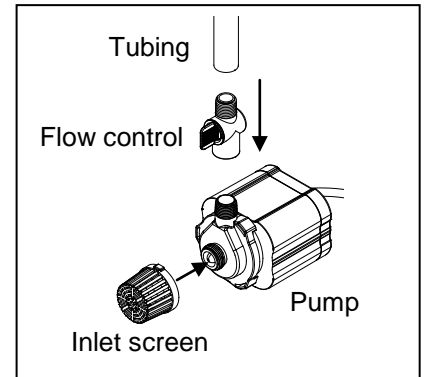

Fig. 1
1. Screw the inlet screen to the intake of the pump, and then connect tubing to the outlet of the pump with flow control. Fig. 1